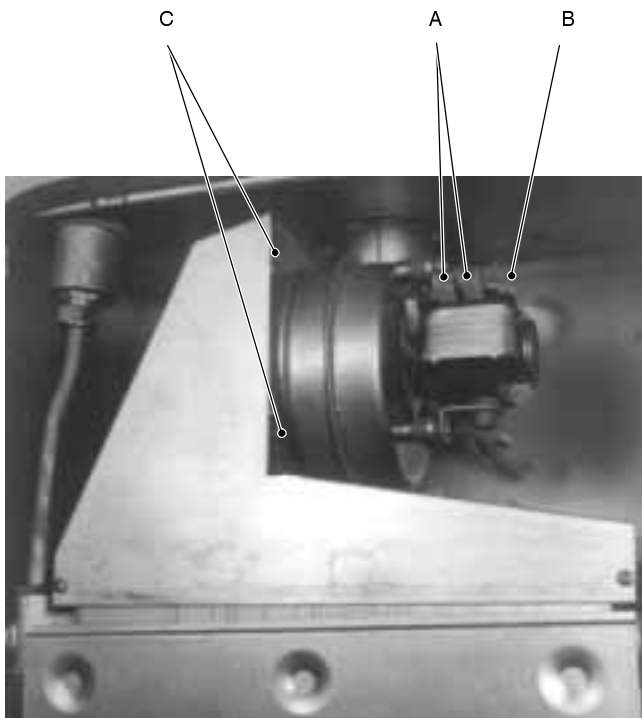

fig. 71
Disconnect the connectors A (fig. 71) and measure the electrical resistance of the motor that has to be about 47 Ω.
- 2 disconnect the connectors *A* and the earth connection *B* (fig. 71);